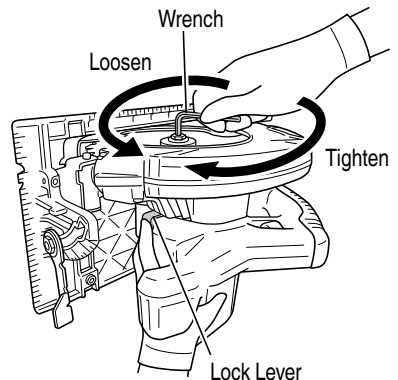
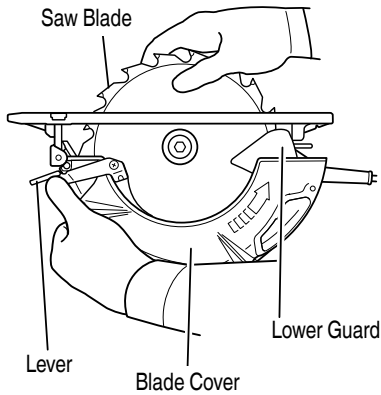

Fig. 15
Fig. 16
- (1) Set the cutting volume at maximum, and place the Circular Saw as shown in Fig. 15.
- (2) Depress the lock lever, lock the spindle, and remove the hexagonal-flange bolt and washer (B) with the Hex. Bar wrench.
- (3) While holding the lever to keep the lower guard fully retracted into the blade cover, remove the saw blade. (Fig. 16)